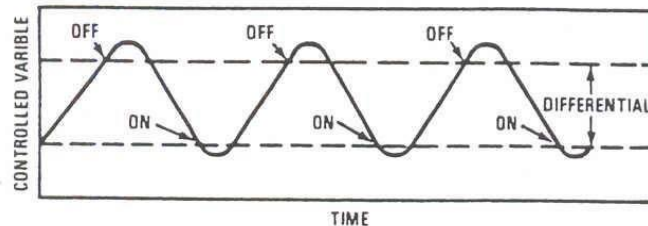

Figure 10-1: Two-position (on or off) control action is typical of the controllers discussed in this lesson.
1. **Two-position** or “on-off” control action (Figure 10-1) is extremely simple and widely applied. Single pole, single throw (SPST) and single pole double throw (SPDT) controllers are commonly used to start and stop burners, pumps, relays, valves, compressors and other electrical loads.